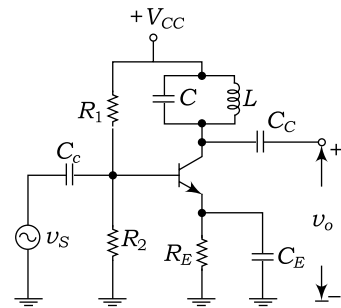

Fig. 8.19 Single tuned voltage amplifier with capacitive coupled
Figure 8.19 shows the single tuned voltage amplifier with capacitive coupled using bipolar junction transistor. This circuit is also called capacitive coupled tuned amplifier. This circuit consists of a transistor amplifier and the tuned circuit as a load. The values of capacitor (C) and inductance (L) of a tuned circuit can be selected in such a way that the resonant frequency of the tuned circuit is equal to the frequency to be selected and amplified. The resistance R_1 , R_2 and R_E are called biasing resistors. The biasing resistors provide the dc operating currents and voltages for the transistor.